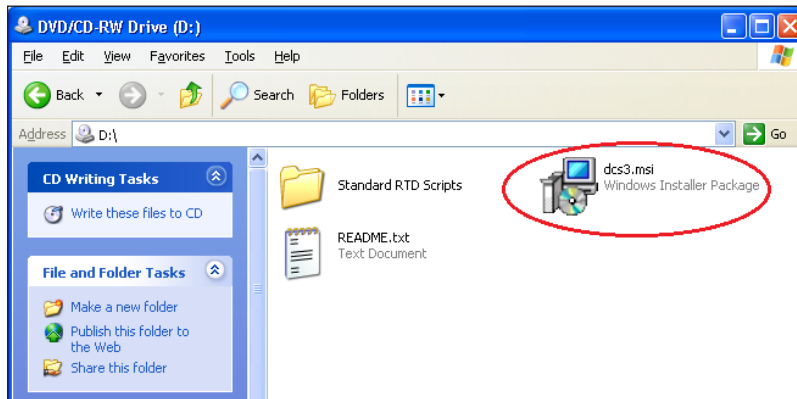

Figure 78: DCS Installation Folder
2. Press the Windows key [Windows] + [E] to open File Explorer. Double-click your CD-ROM drive, and then double-click the "dcs3" file (**Figure 78**).